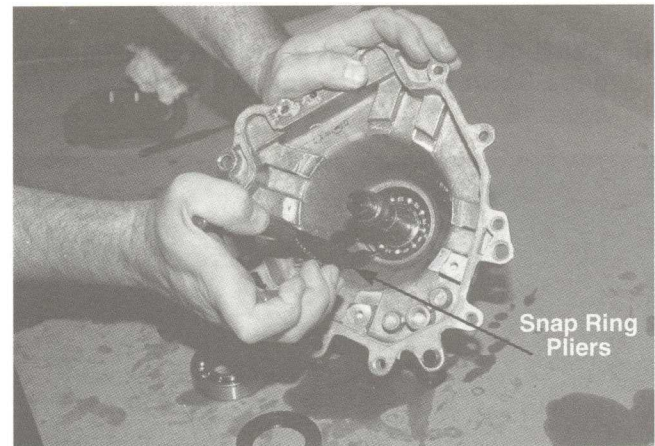

FIGURE 16.
16. To remove the bearing from the housing you must first remove the snap ring. See figure 16.